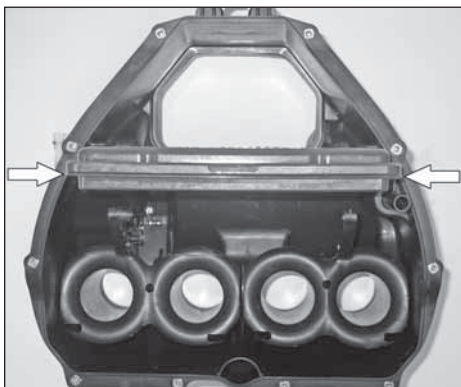
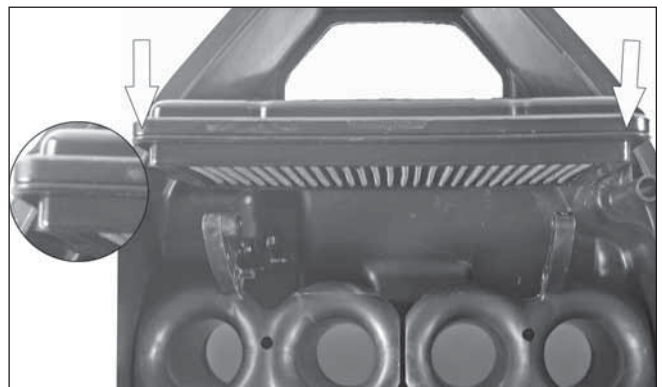

Fig. 1
Fig. 2
3. Install the K&N® air filter (Fig. 1) with the lip seal on the air filter facing towards the throttle body assembly. (Fig. 2)